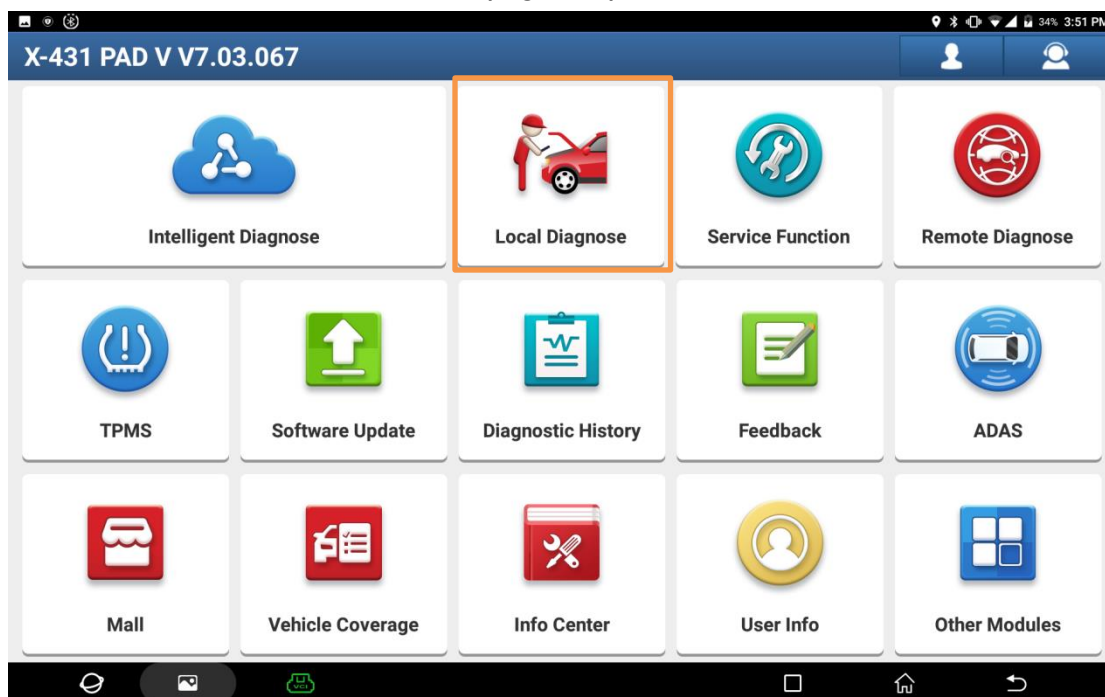
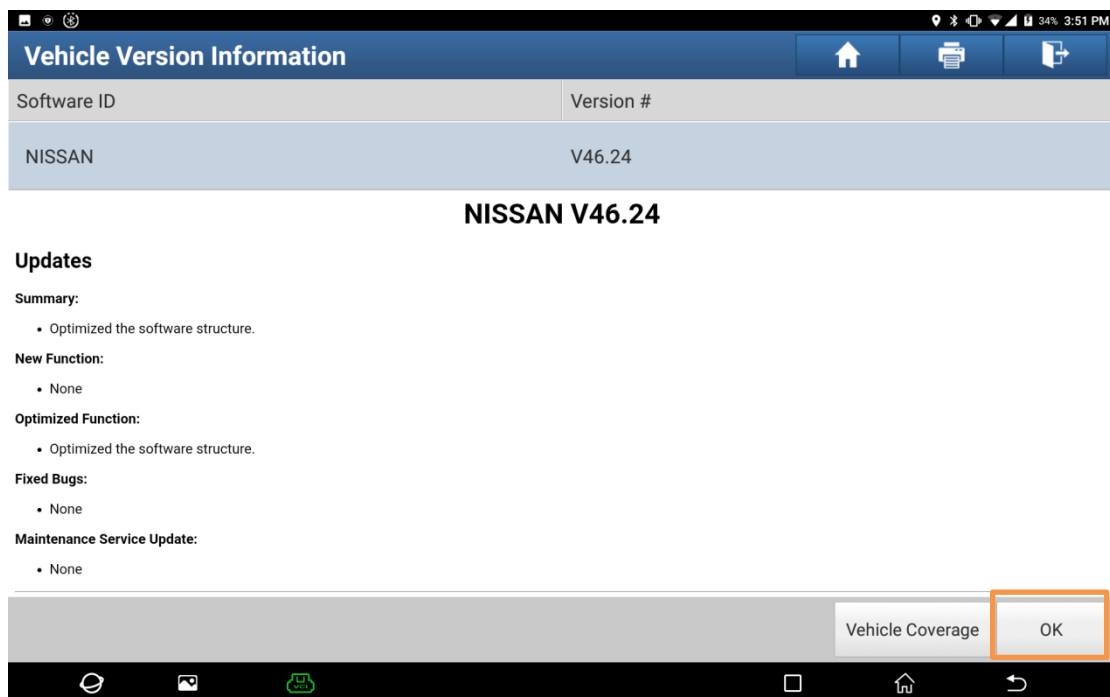
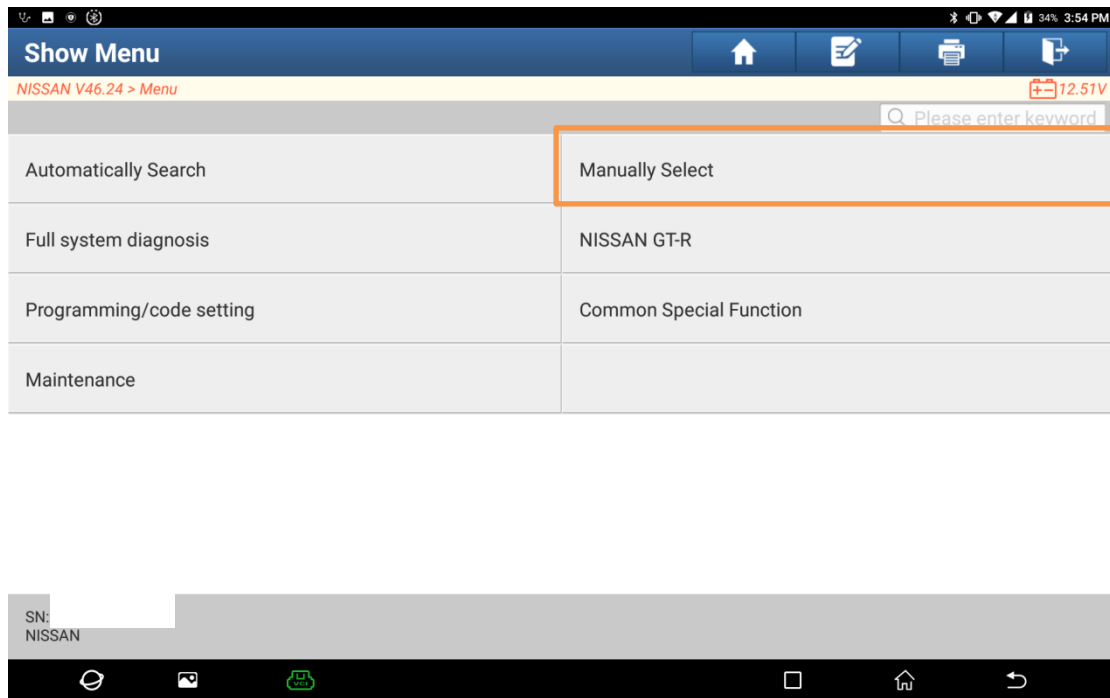

Figure 1
Figure 3
Figure 4
1. On an X431 PAD 5, follow the steps shown in Figure 1 to Figure 3. Choose [Local Diagnose], choose [Nissan], and then click [OK] to enter the Nissan vehicle model menu interface (Figure 4).